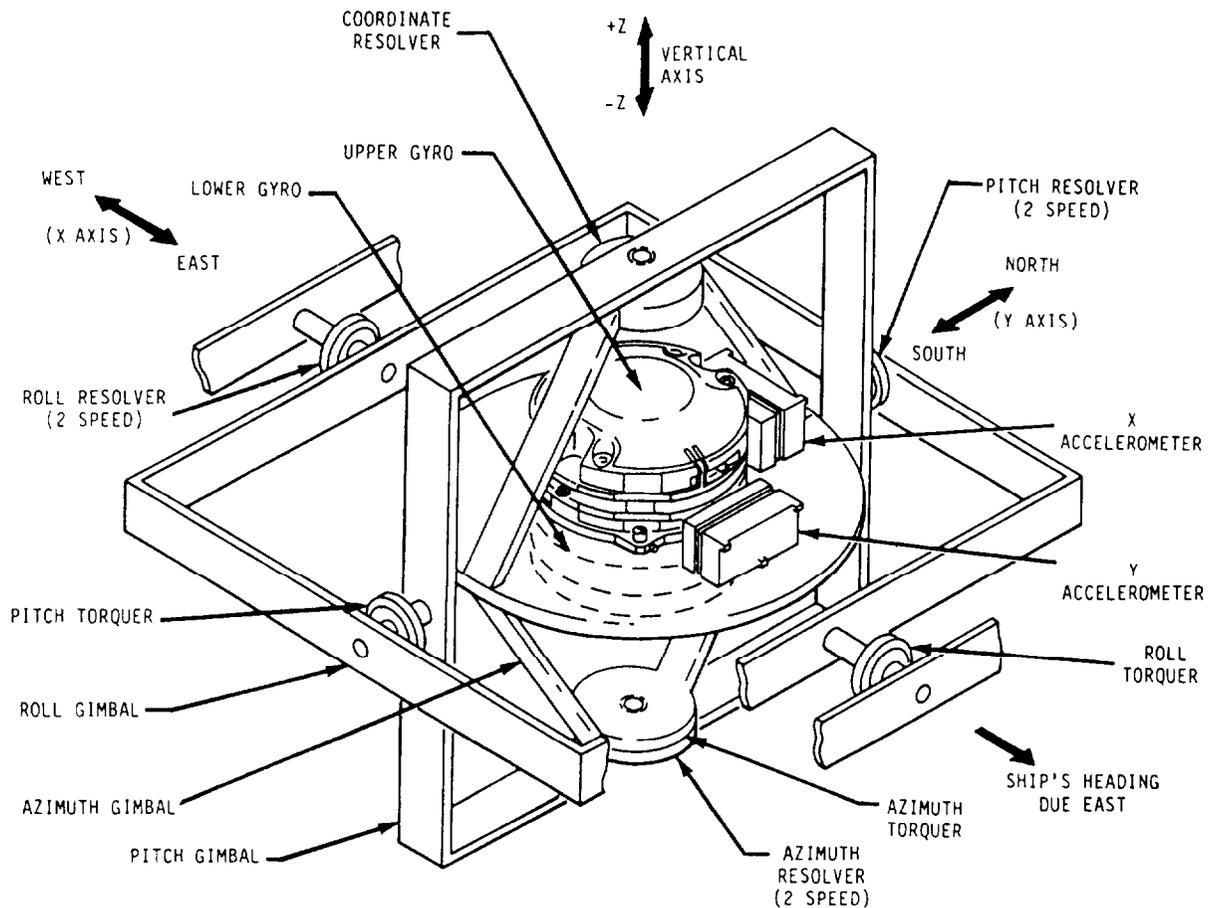

Figure 4-48.—Inertial measuring unit.
**STABLE ELEMENT CAGING.**— Upon energizing and for 10 seconds thereafter, gyro spin power is inhibited by the software program and the stable element is caged. At the end of the delay, the gyros are energized with high spin power. The software program allows 60 seconds for the gyros to gain speed and then perform the gyro synchronization test. If the synchronization test is passed, the program examines the output of the X accelerometer (fig. 4-48) for minimum output, which indicates the platform is level. The software program then checks for proper temperature of the IMU. When the synchronization test, level check and temperature check are successfully completed, the stable element is uncaged and placed under gyro control. Gyro spin power is then set to normal low spin value.
**DIGITAL COARSE LEVELING.**— Upon completion of the caging sequence, all integrators and biases and the alpha (OC) angle (the alpha angle is the angular difference between the stable element's [north-south] axis and true north) are set to zero, and digital course leveling is initiated. Normally, digital coarse leveling requires 1 minute. This time, however, may be lengthened by loop settling delays. Completion